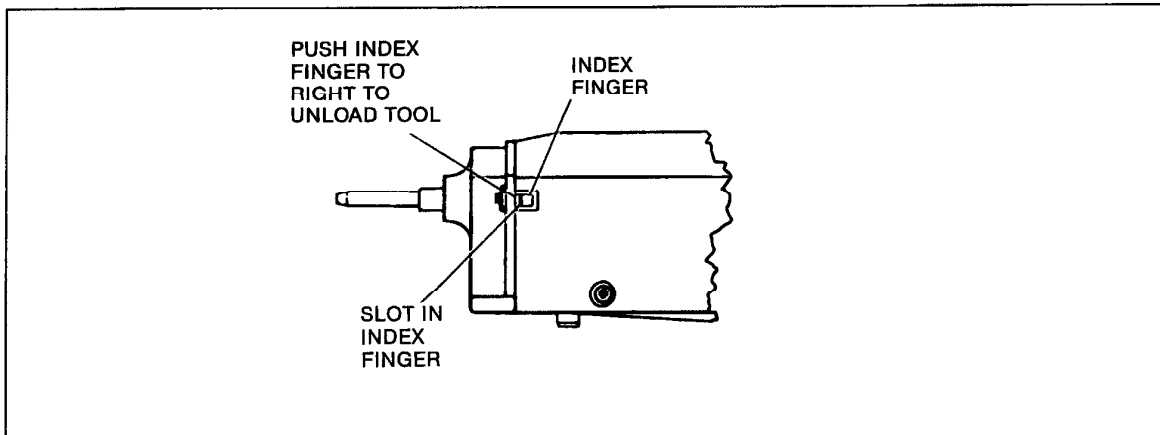

Fig. 3-6. Hand Tool Unloading
2. Insert scribe, or similar pointed instrument, into slot in index finger (accessible through opening in left side of tool cover, as shown in Figure 3-6).
1. Insert scriber or other pointed object into slot of index finger (Figure 3-6). Push index finger to the right and toward rear of tool. Pull out product strip from right of tool about 1/2 in.